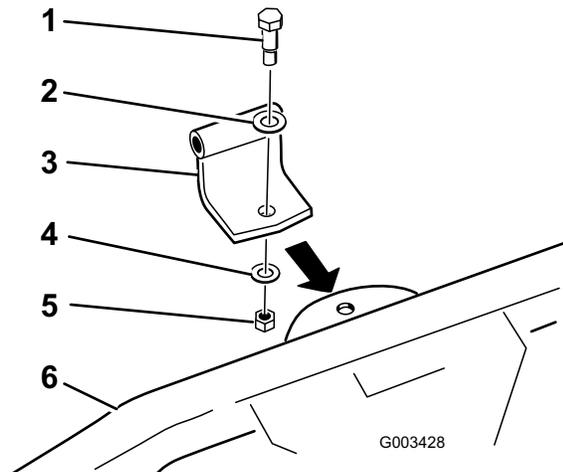

Figure 3
1.063), washer (.469 x .922), and locknut (7/16 inch) as shown in Figure 3.